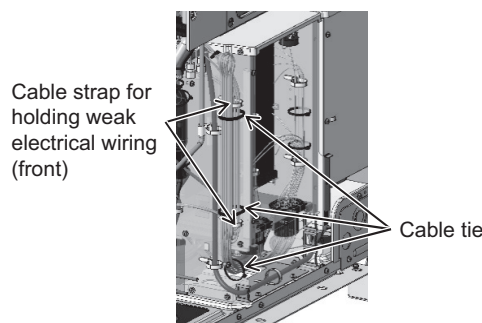

Figure 7
- (10) Cut the three cable ties and loosen the two cable straps holding the weak electrical wiring outside the main control box. (See Figure 7.)